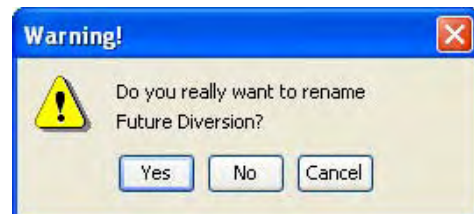

Figure 6.14 Warning Message when Renaming Diversion
3. A warning message (Figure 6.14) appears when you save the new name, asking you to confirm that you want to rename the diversion.